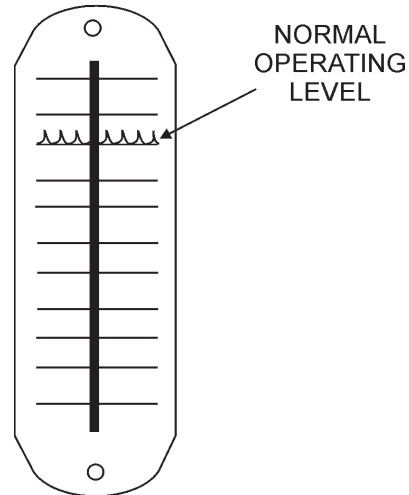

Figure 9. Engine Oil Dipstick (Removal)
1. Visually read the hydraulic sight glass (Figure 9) to see if the hydraulic oil level is low. If the hydraulic oil is low, add enough hydraulic oil to bring oil level to a normal safe operating level.